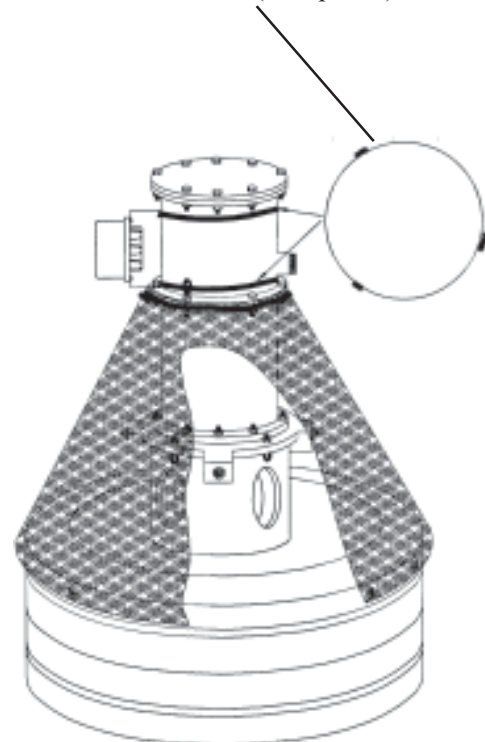

Figure 6b
C. Referring to Figure 6b below, place the aerator on a flat surface with the float down. **If a screen assembly option was ordered with your unit install it now.** Assemble two of the larger hose clamps (Item #2) and one of the smaller clamps (Item #3). This large clamp assembly will now fit around the housing of the unit. Repeat for the remaining three hose clamps. Place the clamps over the bottom of the unit and leave loose.